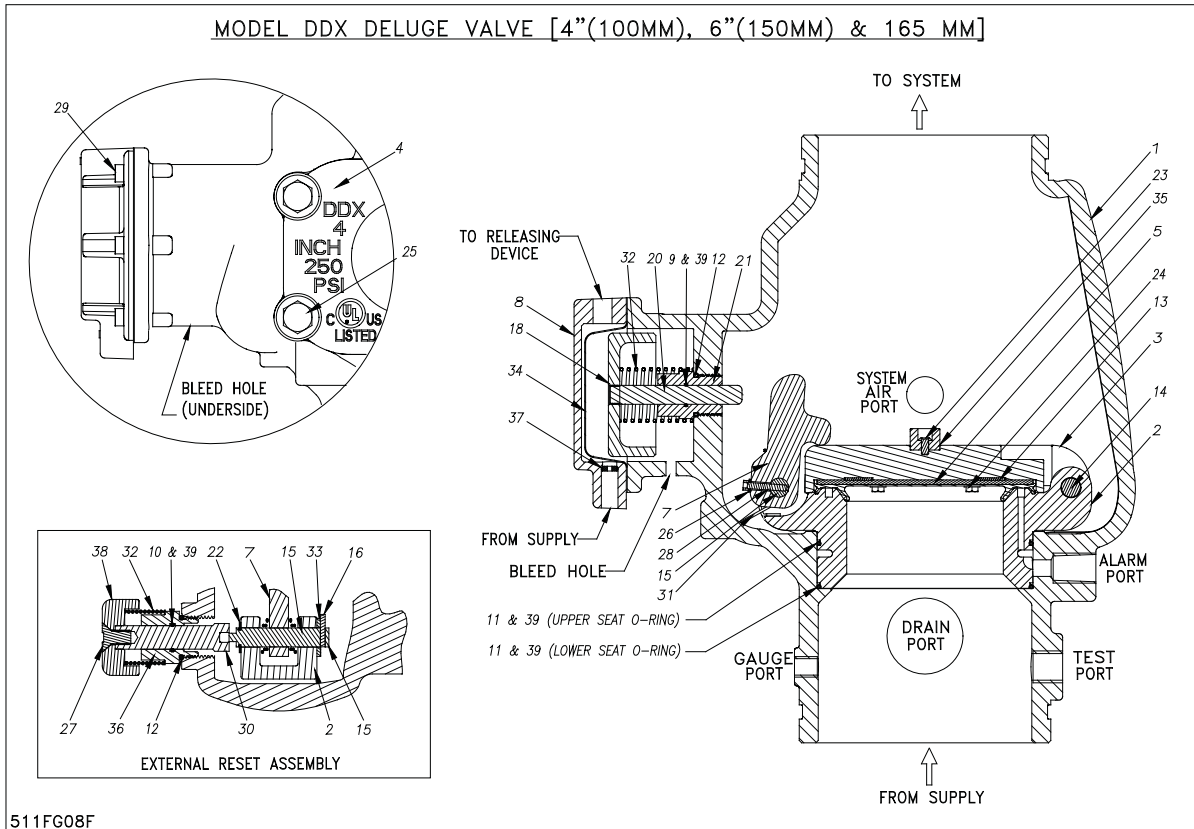

Fig. 5
6. With the Model B Manual Emergency Station, valve D (Fig. 6), open, push in and rotate the Model DDX-LP's reset knob (#38, Fig. 5) clockwise until you hear a distinct clicking noise, indicating that the clapper has closed.
4. **Ball drip valve G (Fig. 6)** — make sure valve F (Fig. 6) is open. Push in on the plunger to be sure the ball check is off its seat. If no water appears, the Dry Pipe Valve's water seat is tight. Inspect the bleed hole (see Fig. 5) on the underside of the push rod chamber for leakage.
This condition can be caused by leakage past the system side of the Model DDX-LP Dry Pipe Valve's seal faceplate subassembly (#5, Fig. 5). Be sure that this surface is free of any type of debris. To eliminate leakage due to a water column, refer to the section in this bulletin marked "Draining Excess/Condensate Water From System". If the problem continues proceed to the following section.
If system air is leaking out the ball drip valve, the problem is either damage to the airside of the Model DDX-LP Dry Pipe Valve's seal faceplate subassembly (#5, Fig. 5), seat (#2, Fig. 5), or the upper seat O-ring (#11, Fig. 5). If supply water is leaking out the ball drip valve the problem could be caused by damage to the Model DDX-LP Dry Pipe Valve's seal faceplate subassembly (#5, Fig. 5), seat (#2, Fig. 5), or lower seat O-ring (#11, Fig. 5). The following section provides instructions to correct both conditions:
- B. Remove the Dry Pipe Valve's front (handold) cover (#4, Fig. 5) and inspect the seat (#2, Fig. 5), clapper (#3, Fig. 5), and seal faceplate subassembly (#5, Fig. 5) for damage.
If inspection indicates damage to the clapper (#3, Fig. 5) or seal faceplate subassembly (#5, Fig. 5) only, then the clapper subassembly can be removed as follows: